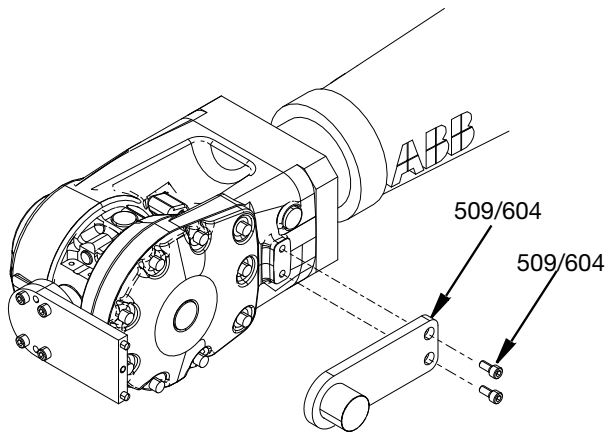

FIG. 8
2. Attach ABB robot bracket (509/604) to the robot using screws (504/609). Do not tighten the screws. See FIG. 8.